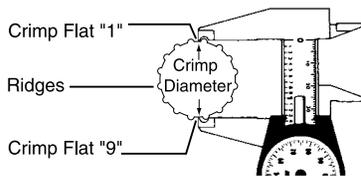

FIG. 1
- Using Gates dial calipers (Product No. 7369-0322, Part No. 78215) measure halfway between ridges (Fig. 1). To be sure crimp diameter is being properly measured, mark a crimp flat. Beginning with that flat, count 9 flats to get the diameter. Be sure caliper blades DO NOT touch ridges. (See Photo 3.)